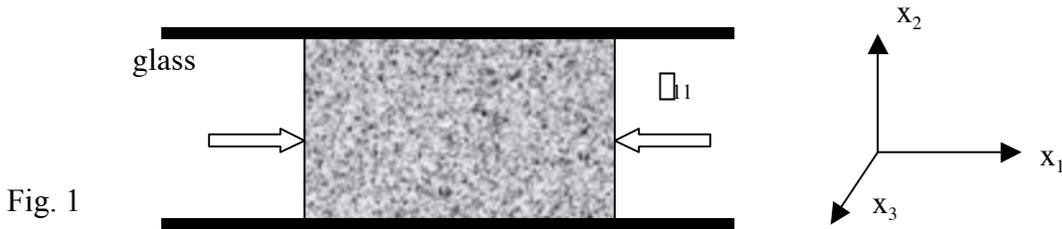

Fig. 1
a) This tissue section is held between two glass slides to view the matrix and cells during deformation (Fig. 1). The specimen is subjected to an applied stress σ_1 , which produces a small compressive strain ϵ_1 in the x_1 -direction. The rigid, fluid impermeable glass slides prevent any elongation in the x_2 -direction, but there are no constraints in the x_3 -direction (i.e., unconfined in the x_3 -direction).